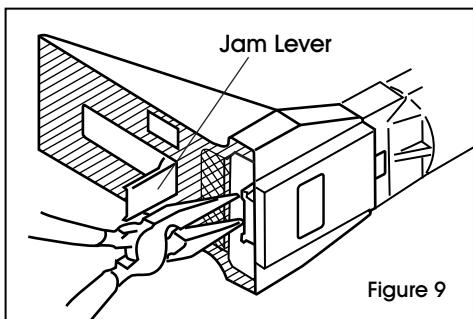

Figure 9
1. Pull jam release lever to a 90° position. Hold coil of staples to prevent movement and use a long nose plier or a screwdriver to clear jam. (See Figure 9)